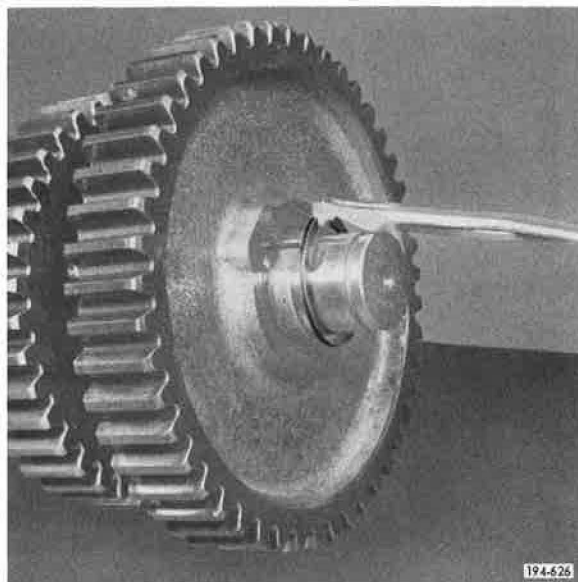

Figure 291. Installing Snap Ring
5. Install gear retaining snap ring, using snap ring pliers J-25445 or equivalent. See Figure 291.